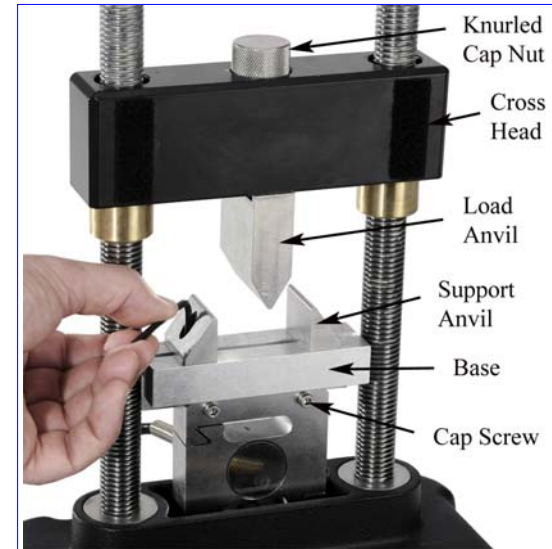

Figure 2. Setting Anvil Spacing
2. The base (for the support anvils) fastens directly to the load cell using the two cap screws as shown in Figure 2